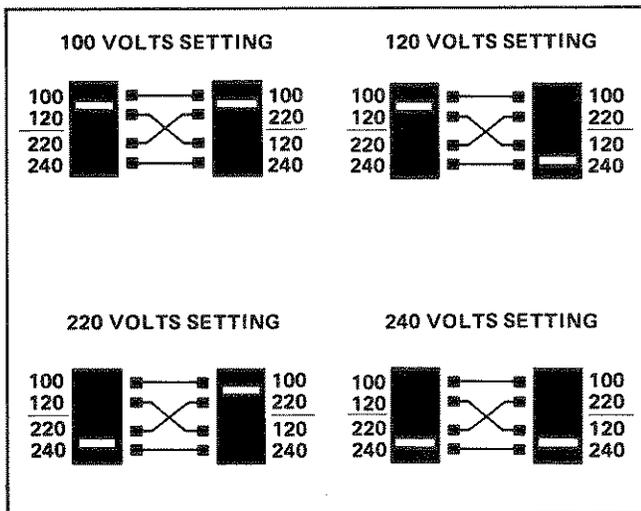

Figure 2-1. AC Voltage Selector Switch Positions
2. See Figure 2-1. Set rear-panel ac power level switches to select line voltage (100V, 120V, 220V, 240V) closest to voltage measured in step 1. Line voltage must be within +5% or -10% of voltage setting. If line voltage is not within limits, an autotransformer must be connected between ac source and HP 85650A. Table 2-2 shows the styles of plugs available on ac power cables supplied with HP instruments.